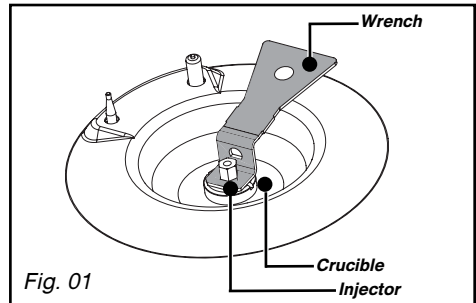

Fig. 01
– **Connection with a wavy metal hose** (stainless steel) with screw-on **mechanical connectors** whose service life is unlimited (Fig. 01).
- Using the wrench provided, unscrew the injectors located under each crucible and remove them (Fig. 01).